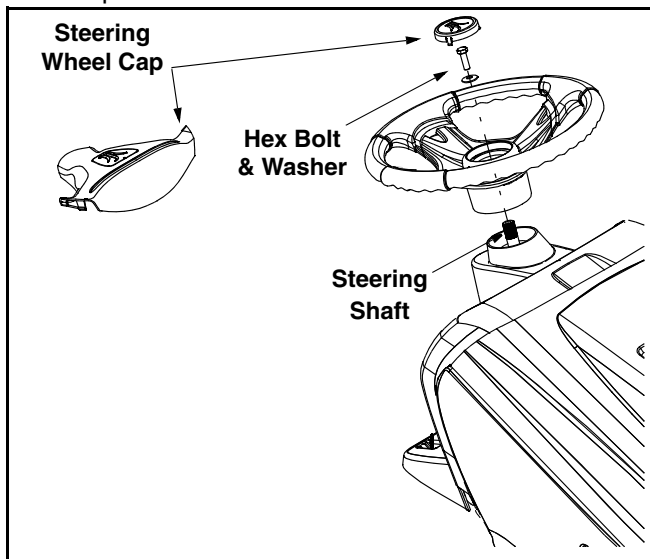

Figure 6
NOTE: There are two different styles of steering wheel cap. See Figure 6. **Styles vary by model.**
- Place the washer (with the cupped side down) over the steering shaft and secure with the hex bolt. See Figure 6.